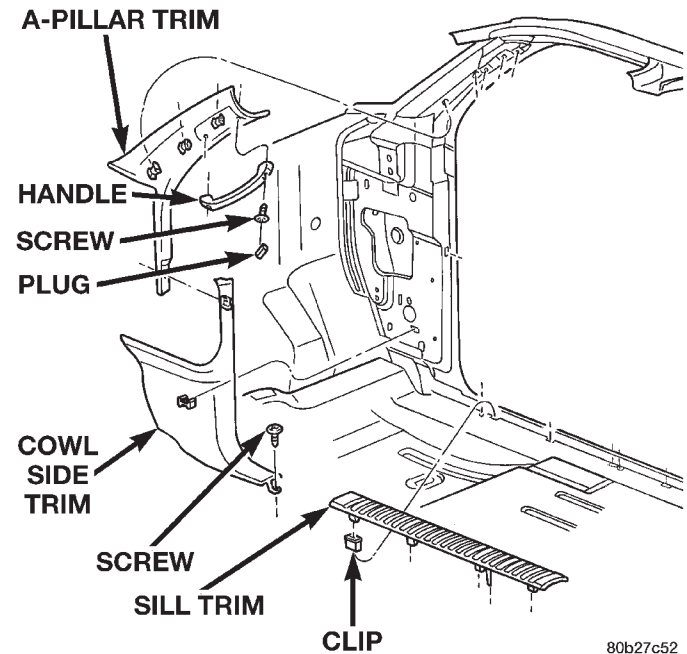

Fig. 27 Cowl Side Trim Remove/Install
(1) Place the front wheels in the straight-ahead position.
(2) Disconnect and isolate the battery negative cable.
(3) Using a trim stick or another suitable wide flat-bladed tool, gently pry along the edges of the right and left front door sill trim to release the clips that secure it to the sill (Fig. 27). Carefully disengage the ends of the sill trim from the inner cowl side trim panel at the front, and from the lower B-pillar trim at the rear, then remove the sill trim from the sill.